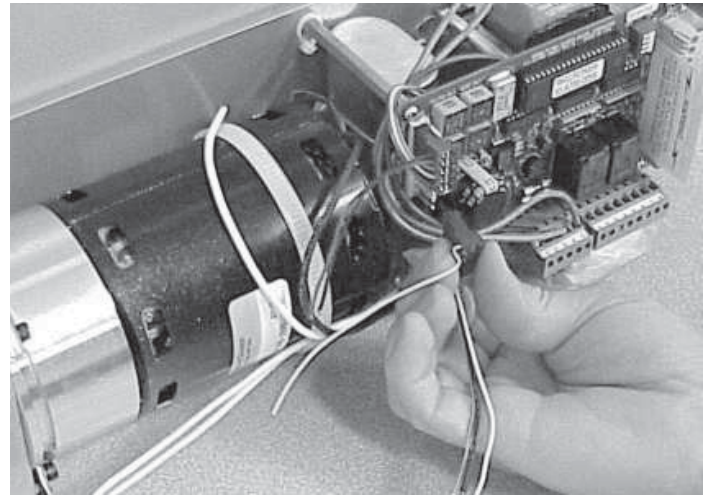
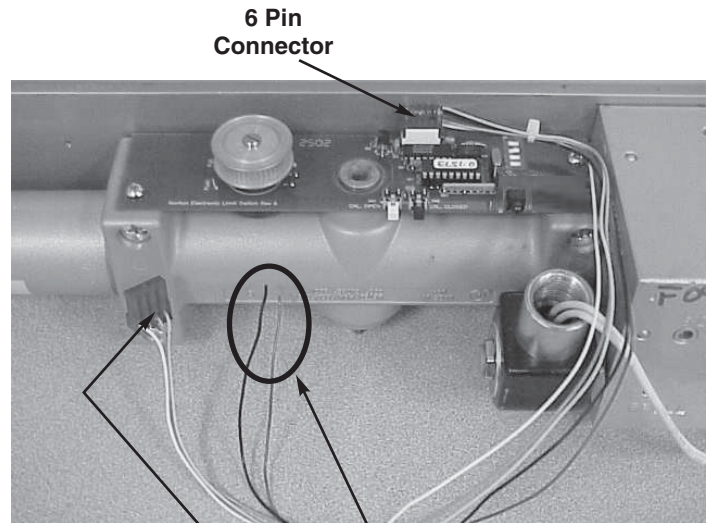

Fig. 2
Fig. 3
2. Unplug the 4-pin connector from the Main Board at JP2 terminal strip that leads to the L2 and L1 switches as shown in Fig.2. Note, 6600's have a L2 Cam Switch only, 6700's have both L1 and L2 switches.
4. Remove Two (2) #8-32 phillips head screws and remove L2 metal switch plate and L1 switch assembly (if so equipped). DO NOT DISCARD #8-32 Screws.
7. Plug the 6-pin connector of the ELS wiring harness to the ELS board as shown in Fig. 3. This plug is keyed to facilitate assembly. Plug the 4-pin connector of the ELS wiring harness to the JP2 terminal strip on the Main board, replacing the connector removed in step 2.